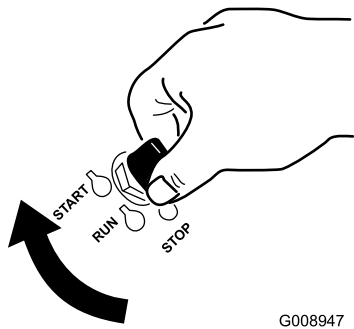

Figure 14
1. Turn the ignition key to the Start position (Figure 14). When the engine starts, release the key.
- Turn the ignition key to the Start position (Figure 14). When the engines starts, release the key.